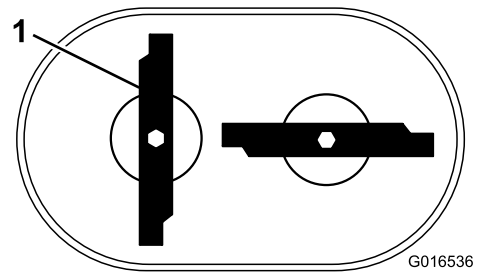

Figure 37
**Note:** The blades should be perpendicular, forming an inverted "T" as shown in Figure 37.